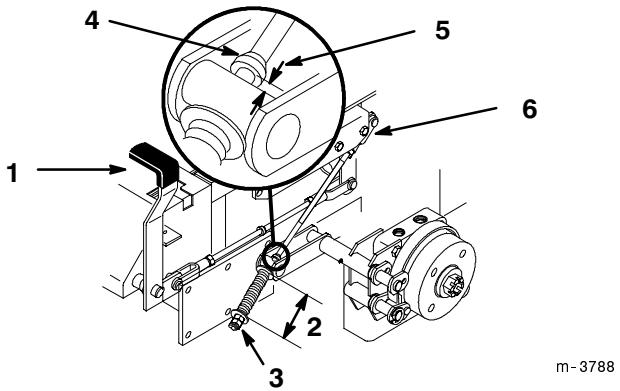

Figure 45
2. Measure the length of the spring. Measurement should be 2.75" (70 mm) between washers (Fig. 45).
3. If adjustment is necessary, loosen the jam nut below the spring and tighten the nut directly below the yoke (Fig. 45). Turn the nut until the correct measurement is obtained. Tighten the two nuts together and repeat on opposite side of unit.
- A. Measure the distance between the trunnion roller and the collar on brake rod. Measurement should be 3/16"-1/4" (5-7 mm) (Fig. 45).
6. If adjustment is necessary, loosen the jam nut directly below the yoke. Turn the bottom rod until the correct measurement is obtained (Fig. 45). Tighten jam nut at yoke